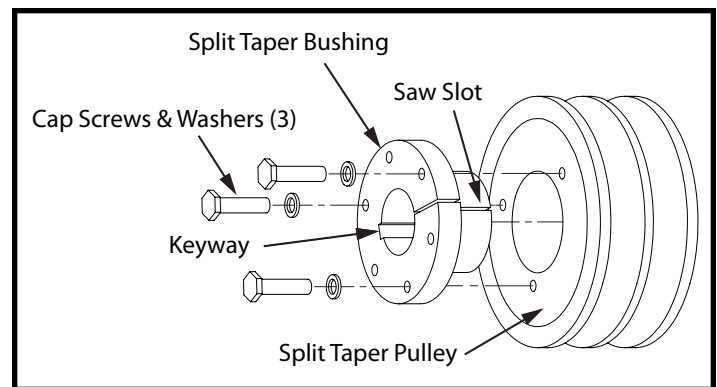

Figure 7. Split Taper Bushing & Pulley Assembly
- It may be necessary to slightly wedge open the saw slot (Figure 7) on some bushings in order to start the bore and position the bushing onto the shaft. A narrow edged regular screw driver may be used.
1. Align the keyway in the bushing bore with the shaft keyway and install the key. Make sure the key runs the entire length of the bushing bore. See Figure 7.